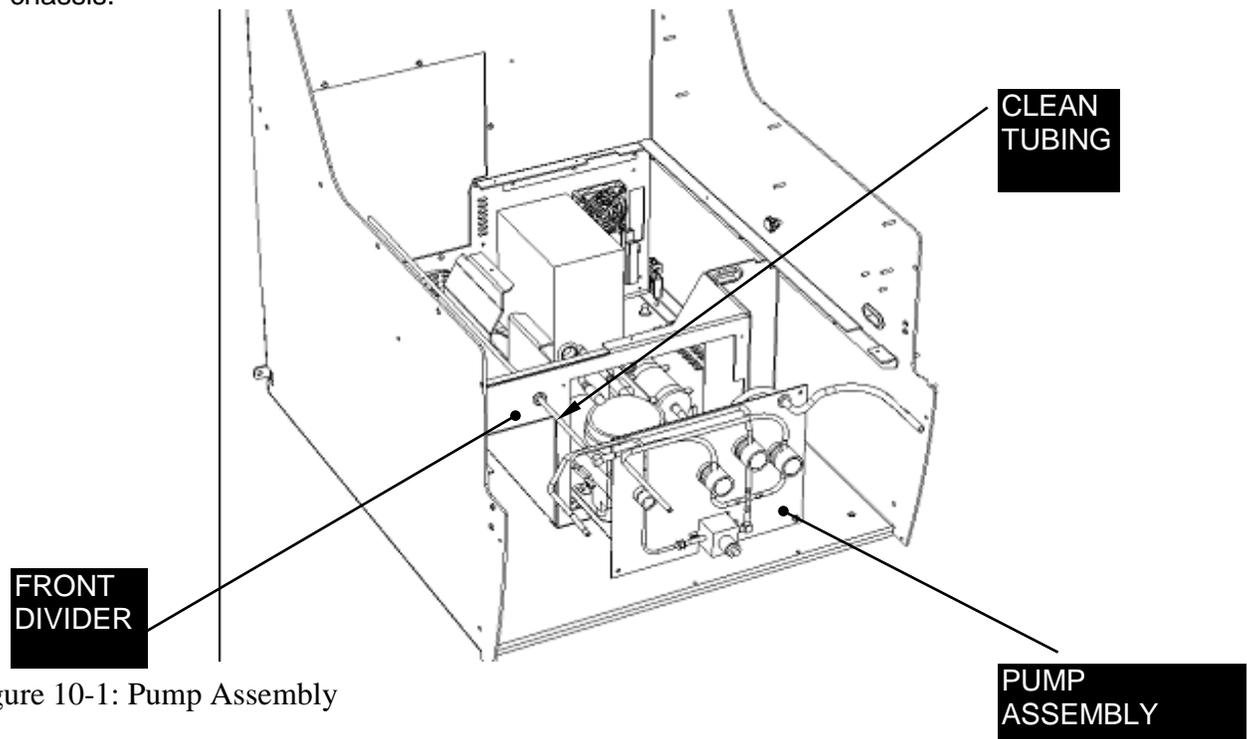

Figure 10-1: Pump Assembly
The Pump is placed in the system via the square hole in the front divider as shown in Figure 10-1.
1. Unscrew the four Cap Head screws (Figure 10-1) that attach the assembly to the chassis.